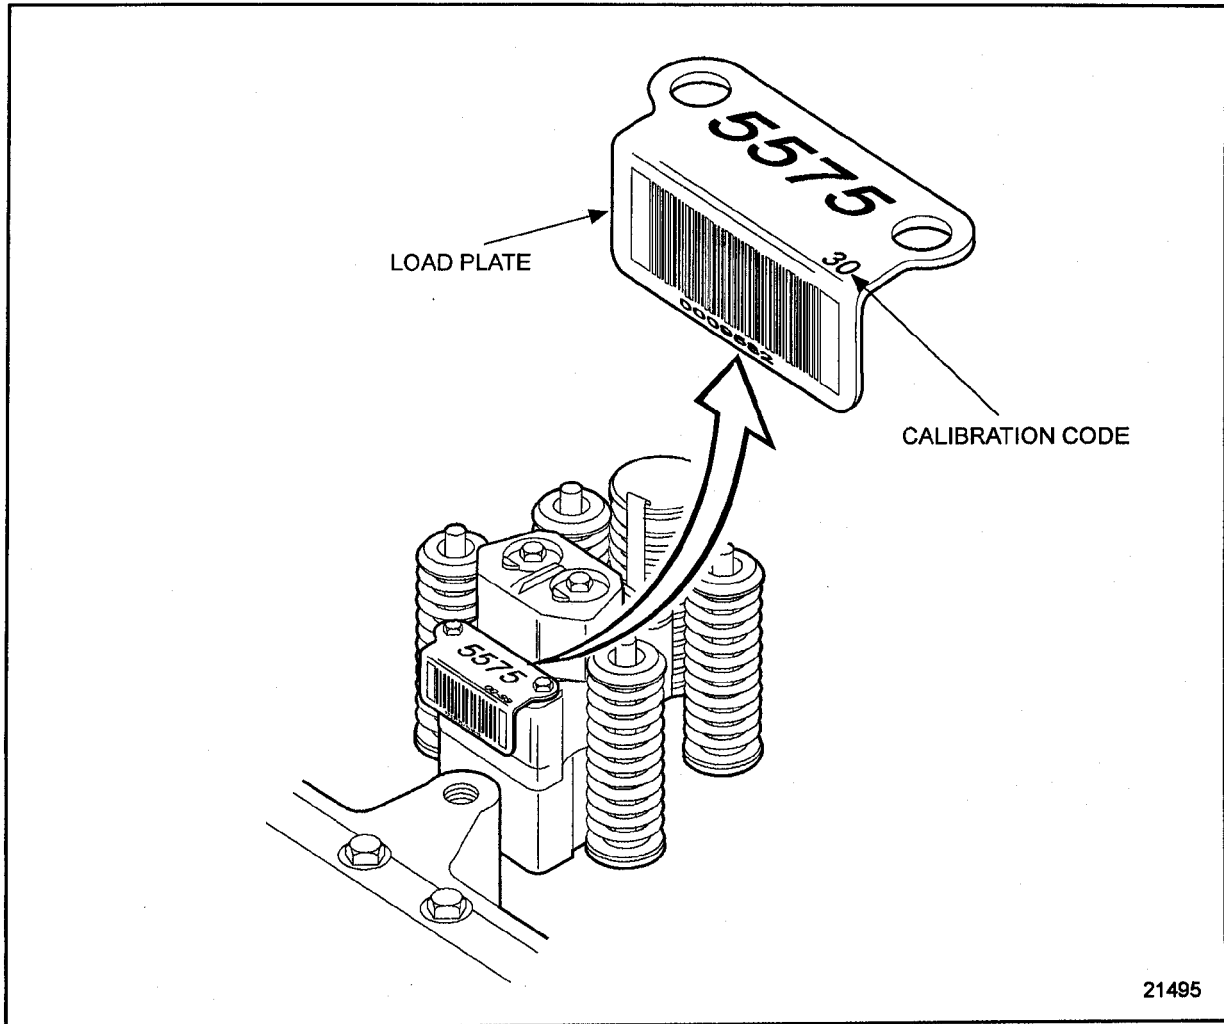

Figure 24-2 **Injector Calibration Code**
2. Compare the calibration code(s) shown on the Diagnostic Data Reader display with the two digit calibration code(s) on the injector(s). See Figure 24-2.
- [b] If the calibration code on the display is different than the calibration code on the suspect injector for that cylinder, the injector setting must be reset, see Figure 24-2; refer to section 24.5.1.